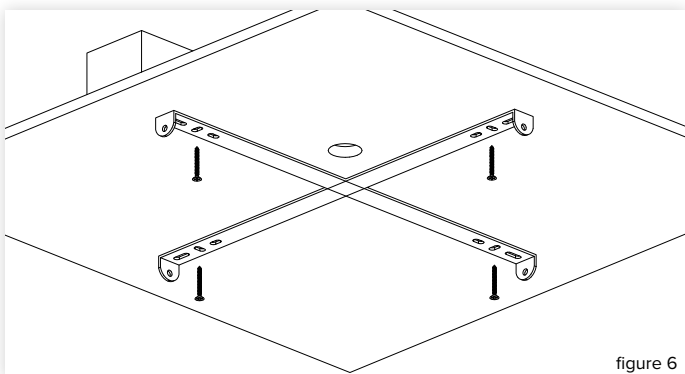

figure 6
2. Remove the fixing bracket from the LED light and fit to the ceiling using fixings provided. Ideally fix directly into a joist or ceiling batten, as per figure 6. Elsewhere use plasterboard plugs provided.